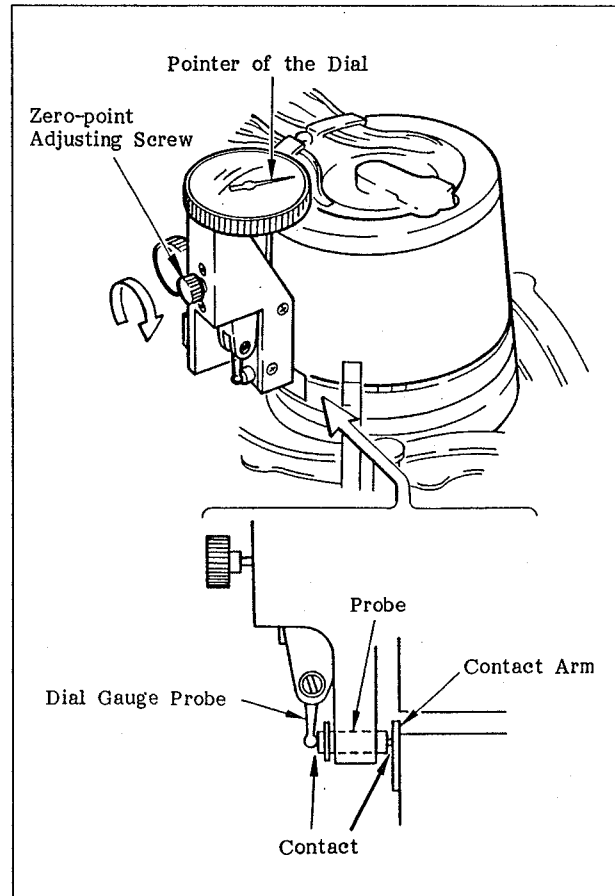

Fig. 5-24 Head Projection Check (4)
7. Turn the zero-point adjusting screw clockwise and stop in the position where the pointer of the dial gauge starts moving. Verify that the dial gauge probe shown in Fig. 5-24 is in contact with the probe and the that tip of the probe is in contact with the contact arm.